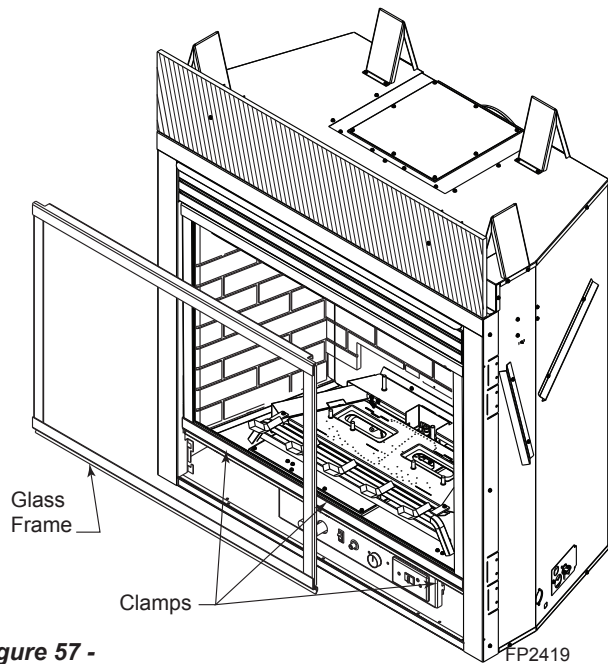

Figure 57 -
1. The RF receiver button located on the Control Board must be in the on position before the learn function can begin. Use paper clip to depress button. One beep for RF receiver ON or two beeps for RF receiver OFF will be given as confirmation. Refer to Figure 57 for location.
2. Release three (3) clamps on bottom of fireplace. *Figure 57*